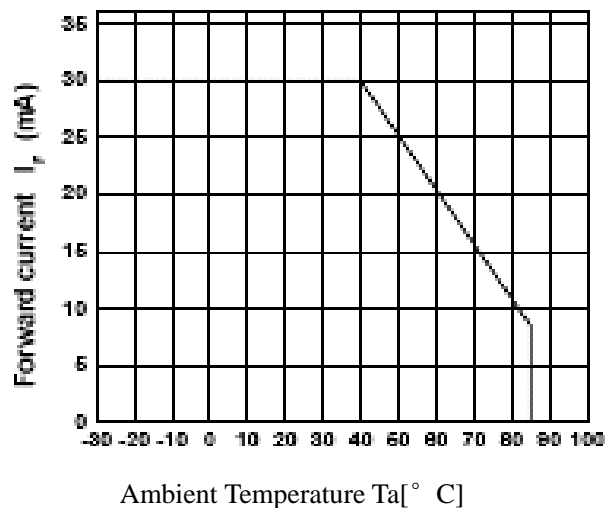

Fig 2.1 Ambient Temperature vs. Allowable Forward Current
3. Allowable forward current is refer to Fig 2.1